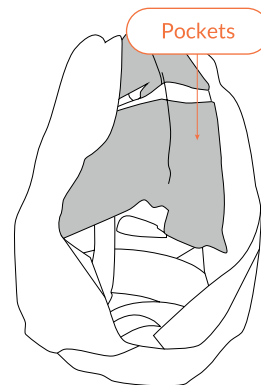
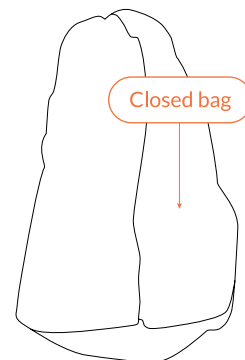

Fig 53 - Tuck the pockets into the bag on top of the Platform
Fig 54 - Close the bag
8. Once the platform is back in the bag, tuck the orange pockets (Ocean & Voyager Series only) back on top of the platform (Fig 53) and reseal the bag along the Velcro strip (Fig 54).